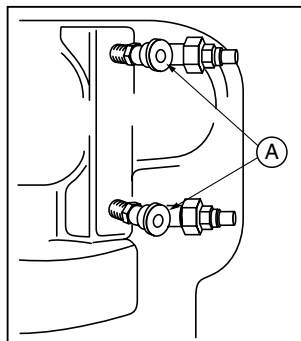
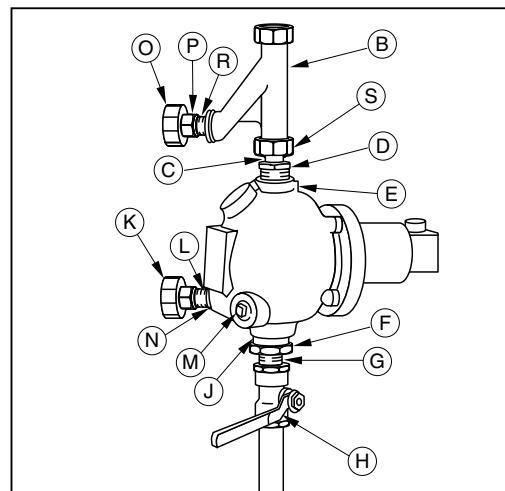

Figure 1
Figure 3
- a. See figures 1 and 2. Install both brass Y fittings (A) into the boiler gauge glass tapplings.
- b. See figure 3. Install reducing bushing (D) and nipple (C) into top 1" (25mm) NPT tapping (E). Install reducing bushing (F), nipple (G), and blow down valve (H) into 1" (25mm) NPT (J).
- c. See figure 3. Slip union nut (K) over lower tail piece (L) and screw it into either 1/2" (15mm) tapping (M) or (N). Use the 1/2" (15mm) pipe plug to close unused tapping. Slip union nut (O) over union piece (P) and nipple (R) and install into black Y (B). Slide black Y (B) over nipple (C). Connect upper (O) and lower (K) unions to brass Y fitting (A, figure 1) and tighten. **NOTE:** the black Y (B) will have to be moved up or down to mate the union halves. Tighten compression nut (S).